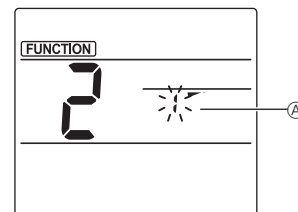

Fig. 2
② Selecting the vane number (Fig. 2)